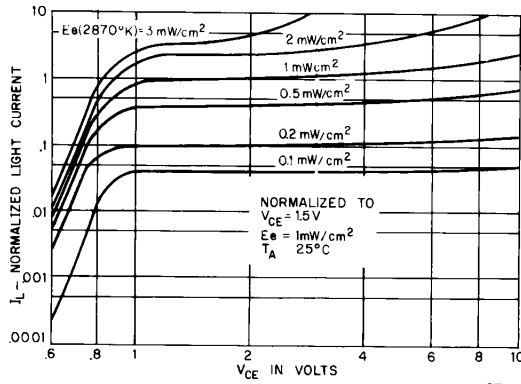
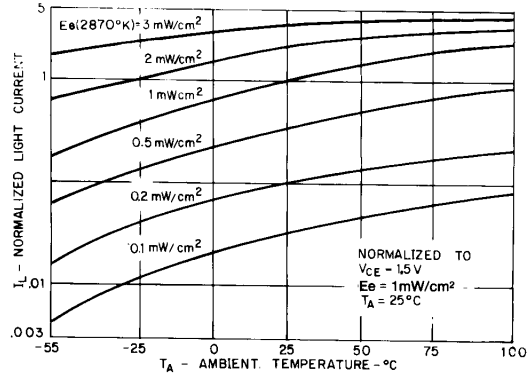

Fig. 1. Light Current vs. Collector-Emitter Voltage ST1118-11
Fig. 2. Light Current vs. Ambient Temperature ST1123-11
- Figure 1 and figure 2 use light source of tungsten lamp at 2870°K color temperature. A GaAs source of 3.0 mW/cm^2 is approximately equivalent to a tungsten source, at 2870°K , of 10 mW/cm^2 .